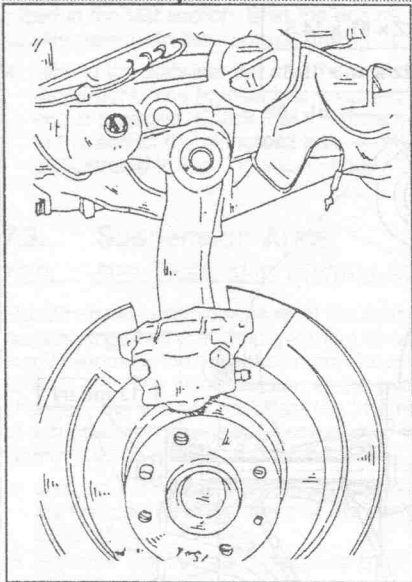

Fig. 7.8. — Removal of a suspension arm.
- Move the arm into the position shown in Fig. 7.8 and withdraw it from the rear suspension.